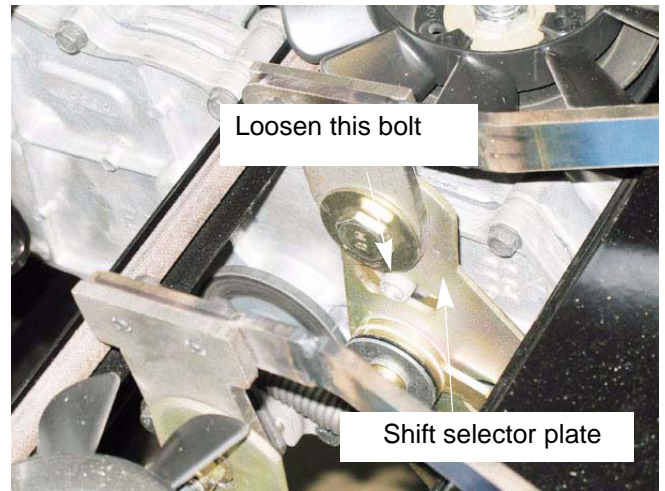

Figure 6A.12
- 5a. Loosen the socket head cap screw in the slot of the shift selector plate. See Figure 6A.12.